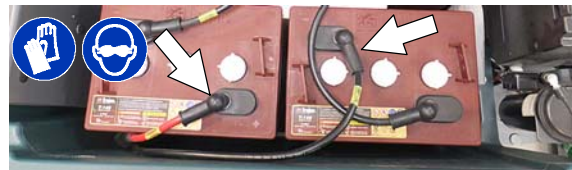

FIG. 78
1. Disconnect the battery cable connection at machine (Figure 78).